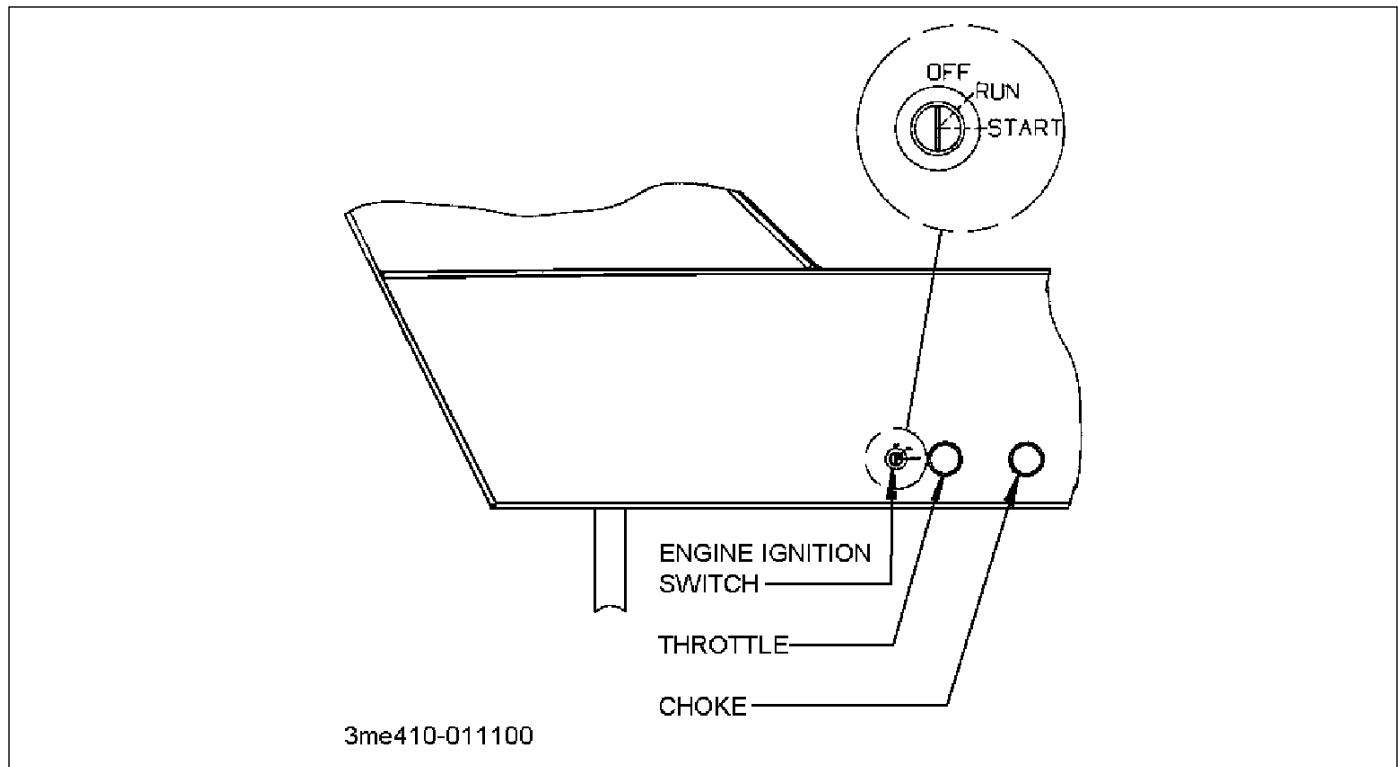

Figure 3-12: Engine Ignition Switch
2. The **ENGINE IGNITION SWITCH** is located by the hydraulic controls on the driver's side of the semitrailer. Use the key to start and stop the Hydraulic Power Supply Engine (See Figure 3-12.) This switch has three positions:
3. The **HYDRAULIC POWER SUPPLY ENGINE CHOKE** is located by the Engine Ignition Switch on the driver's side of the semitrailer (See Figure 3-12.) The purpose of the Choke is to aid the starting procedure.
4. The **HYDRAULIC POWER SUPPLY ENGINE THROTTLE** is located to the below the choke on the driver's side of the semitrailer. The Engine Throttle controls the speed at which the engine operates (See **Figure 3-12.**) It is a variable position control: